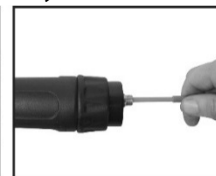

Fig. 63
3. Carefully pull the liner out of the torch cable assembly (Fig. 63).